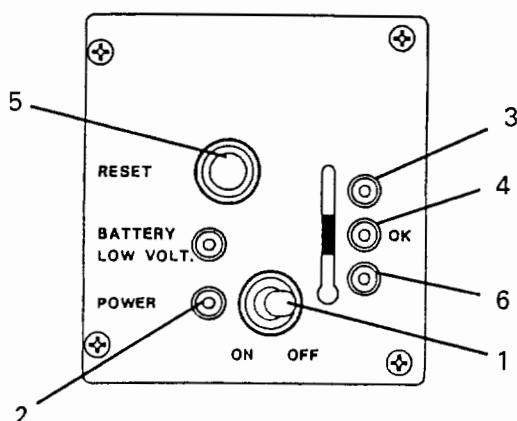

Figure 3-22 — Control Panel
- Shortly after the green temperature LED (4) will light again, reset the alarm system by pushing the reset button (Fig 3-22).
- a. The green power LED (2) starts flashing and the audible alarm sounds. This indicates a power loss to the unit (Fig 3-22).
- b. The red high temperature LED (3) starts flashing and the audible alarm sounds. This indicates the interior temperature has risen above the 6°C operating range (Fig 3-22).
- c. The red low temperature LED (6) starts flashing and the audible alarm sounds. This indicates the interior temperature has fallen below the 3°C operating range (Fig 3-22).
- d. The red battery low volt LED (7) starts flashing and the audible alarm sounds. This indicates the AA NiCad battery voltage is too low. As the batteries are normally constantly charged when the unit is operating this condition indicates the batteries are defective and require changing (Fig 3-22).
347. Turn the power switch (1) to the Off position. The alarm system is de-energised and the refrigerator unit stops operating (Fig 3-22).